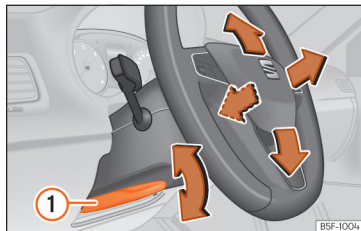

Fig. 24 Lever in the lower left side of the steering column.
Adjusting the position of the steering wheel: pull the » » » **Fig. 24** ① lever down, move the steering wheel to the desired position and lift the lever back up until it locks.